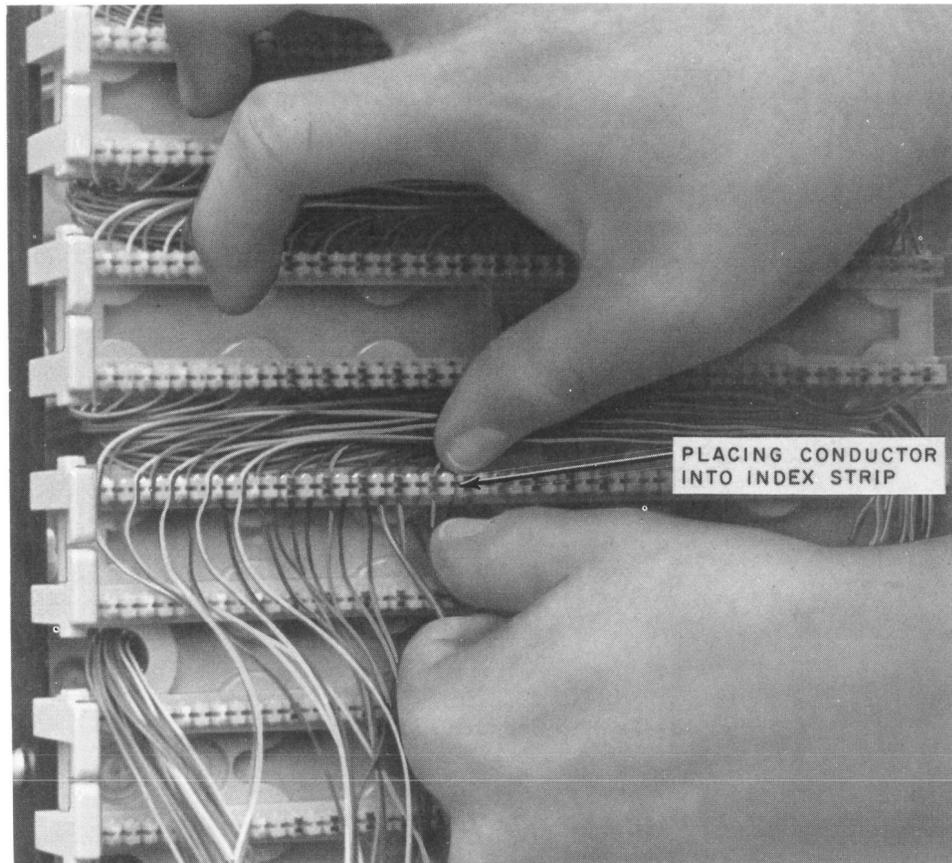

Fig. 17—Placing Cable Conductor Into Index Strip
8.01 Place the cable conductors into the index strip on the wiring block in order as shown in Fig. 17 starting with the blue-white pair of the blue-white binder group into index strip No. 1 at the upper left. The high spot on the index strip splits the pair.